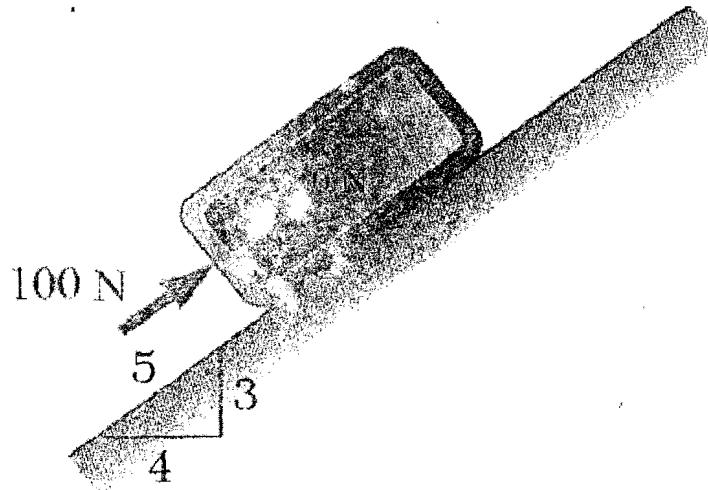

Figure 1
- a) A 100 N force acts as shown in **Figure 1** on a 300 N block placed on an inclined plane. The coefficients of friction between the block and plane are $\mu_s = 0.25$ and $\mu_k = 0.20$. Determine whether the block is in equilibrium and find the value of the friction force.